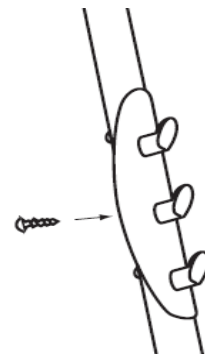

Figure 10
11 Attach the provided **3-Hook Towel Holder (I)** on the preferred side of your cover lift by simply snapping it into place and inserting the middle **Self-Tapping Screw (L)**. See *Figure 10*.